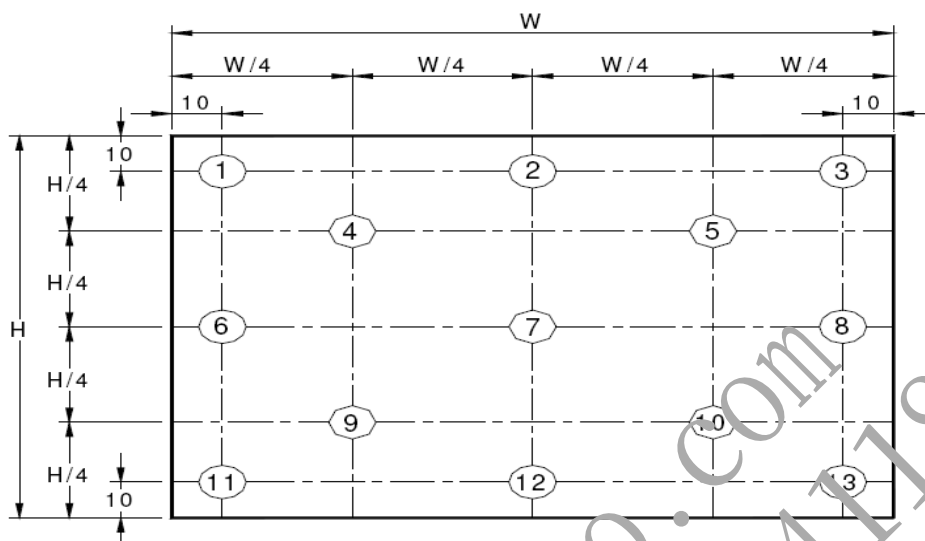

Figure 9. Uniformity Measurement Locations (13 points)
4. The White luminance uniformity on LCD surface is then expressed as : $\Delta Y = \text{Minimum Luminance of 5(or 13) points} / \text{Maximum Luminance of 5(or 13) points.}$ (see Figure 8 and Figure 9).
The White luminance uniformity on LCD surface is then expressed as : ΔY_5 = Minimum Luminance of five points / Maximum Luminance of five points (see Figure 8) , ΔY_{13} = Minimum Luminance of 13 points / Maximum Luminance of 13 points (see Figure 9)